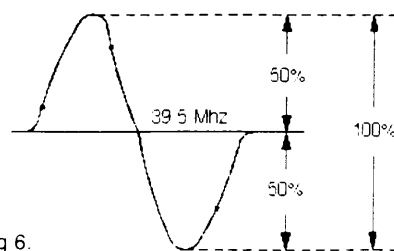

Fig 6.
- 3: Adjust T105 (AFC COIL). For waveform as shown in Fig 6.